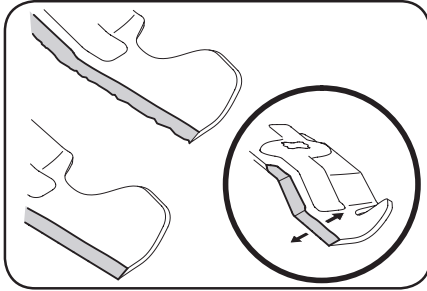

Figure 4-10
- Remove positive and negative leads from battery, and pull up on battery to remove. See Figure 4-10.